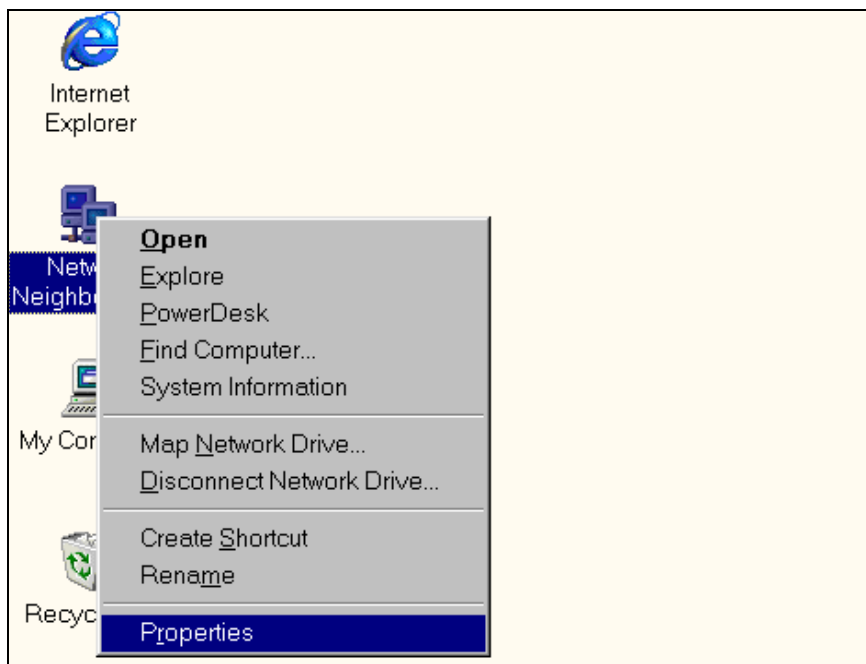

Figure 3-1 Windows Main Menu
2. Right-click on *Network Neighborhood* icon (see Figure 3-1) and click on *Properties*.